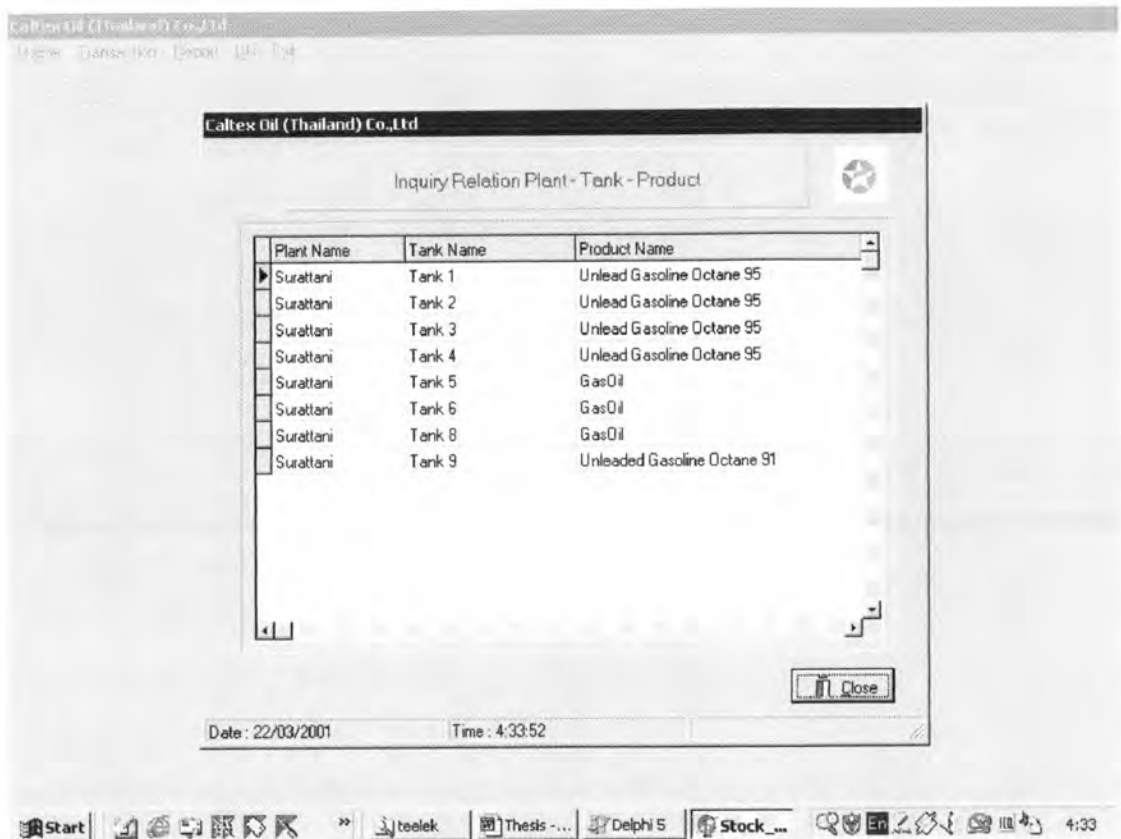

Figure 4-21 Inquiry Relation Product Menu
c) Inquiry Product data (see figure 4.21)